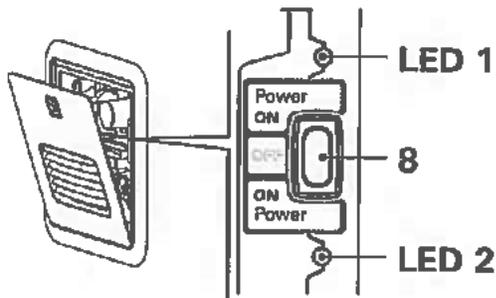

Fig. 8
2. To switch on the appliance, switch the POWER switch (Fig. 8 – 8) to one of the two "ON" positions.
- When the green power ON LED 1 (Fig. 8 – LED 1) is lit, the appliance is switched on.
- If the red error code LED 2 (Fig. 8 – LED 2) is lit / flashes, there is a fault or warning (refer to "APPENDIX A – Error Codes" on page 37).
- Switch off the appliance at the POWER switch (Fig. 8).
- The green Power-ON LED 1 (Fig. 8) extinguishes.